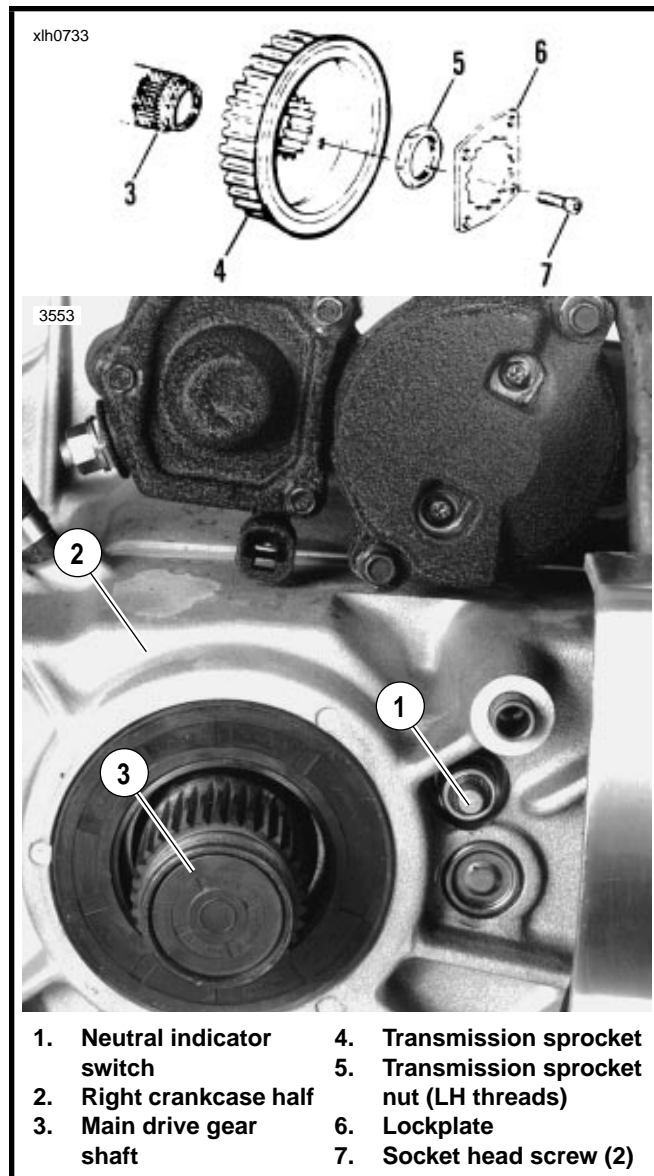

Figure 7-43. Neutral Indicator Switch
See Figure 7-43. The neutral indicator switch (1) is threaded into the transmission portion of the right crankcase half (2); it is immediately forward of the main drive gear shaft (3). The sprocket cover must be removed to test the switch. If switch requires replacement, secondary drive belt and transmission sprocket must also be removed; there is not enough clearance to allow the removal of the switch without first removing the transmission sprocket.
2. See Figure 7-43. Disconnect wire lead from neutral indicator switch (1).
3. See Figure 7-43. Place transmission in first gear. Remove two socket head screws (7) and lockplate (6).